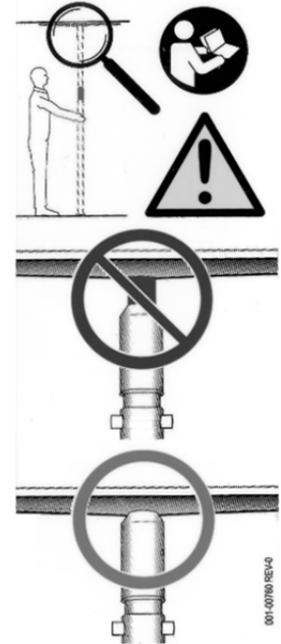

Figure 26
**RED ZONE MUST NOT BE VISIBLE FOR THE POST TO BE SAFELY SECURED (see the warning label apposed on each post, as shown in Figure 26).**